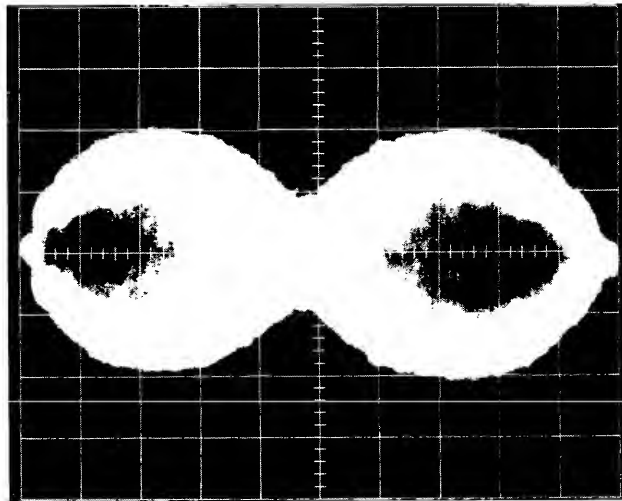

Figure 5-3. Radial Head Alignment Waveform
- h. With the scope connected, the pattern shown in Figure 5-3 should be observed.